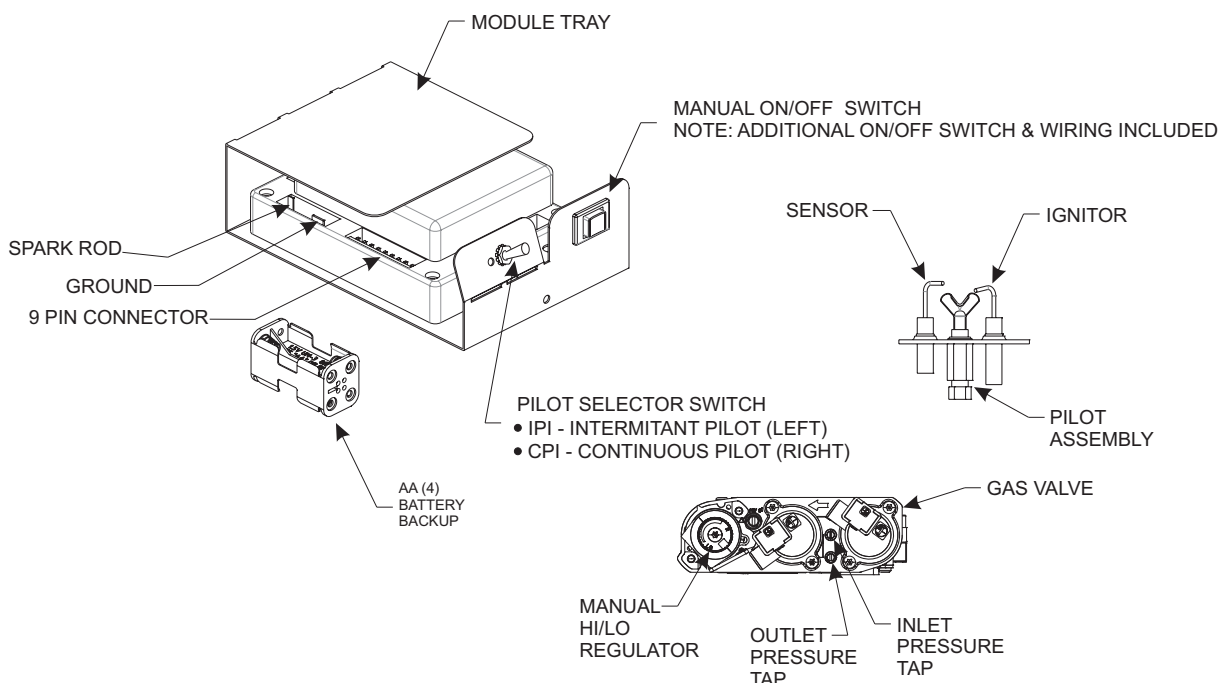

Figure 78
See Figure 78.
3. The gas valve has inlet and outlet pressure taps as shown in Figure 78. Refer to pages 8 and 17 for gas pressure requirements.
NOTICE: The gas control has a manual HI/LO flame adjustment knob (regulator) that allows you to increase or decrease the height of the burner flame. See Figure 78. Rotate the HI/LO knob counterclockwise to “HI” to increase the flame height, and clockwise to “LO” to decrease the flame height.
To connect the remote receiver to the appliance, first disconnect the ON/OFF switch wires from the white and green wire connectors and connect the wires from the remote receiver to the green and white wire connectors. See Figure 78.